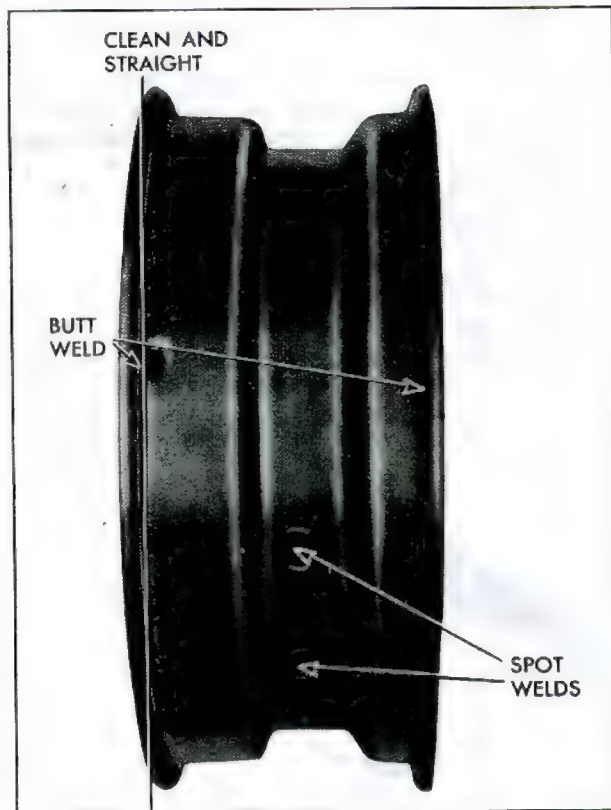

Fig. 23—Rim Inspection
3. Inspect the butt-weld in the rim flange area to make certain there is no groove or high spot (fig. 23). Any grooves or high spots must be filed flat and smooth.